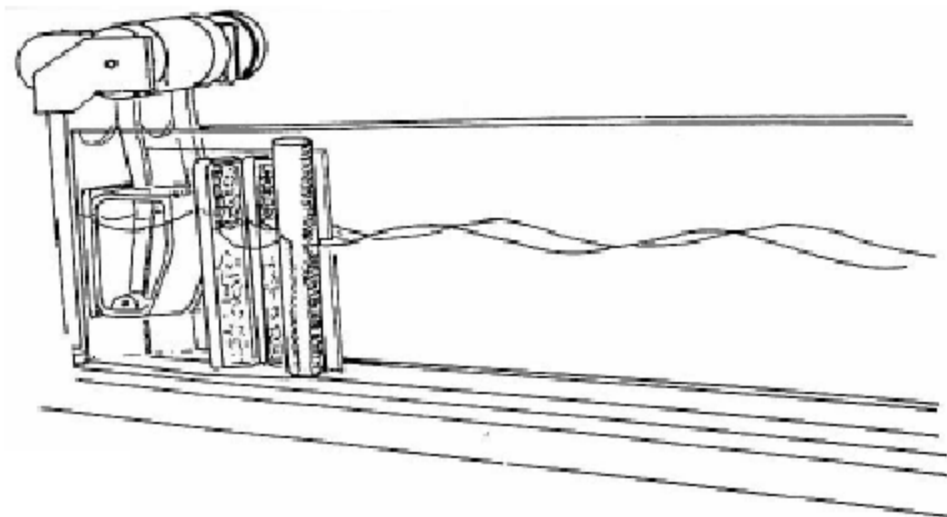

Fig. 3 Same-phase overlapping of waves
- Determine the amplitude of the wave after it enters the I-channel (Fig. 3).